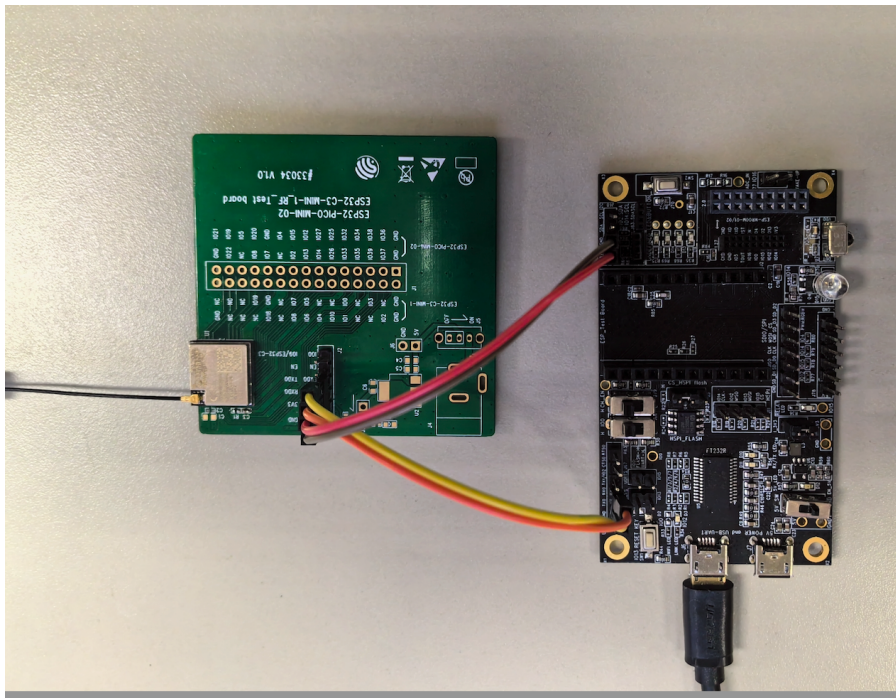

Figure 2: Hardware Connection
1. Solder the ESP32-C6-MINI-1U module to the RF testing board as shown in Figure 2.